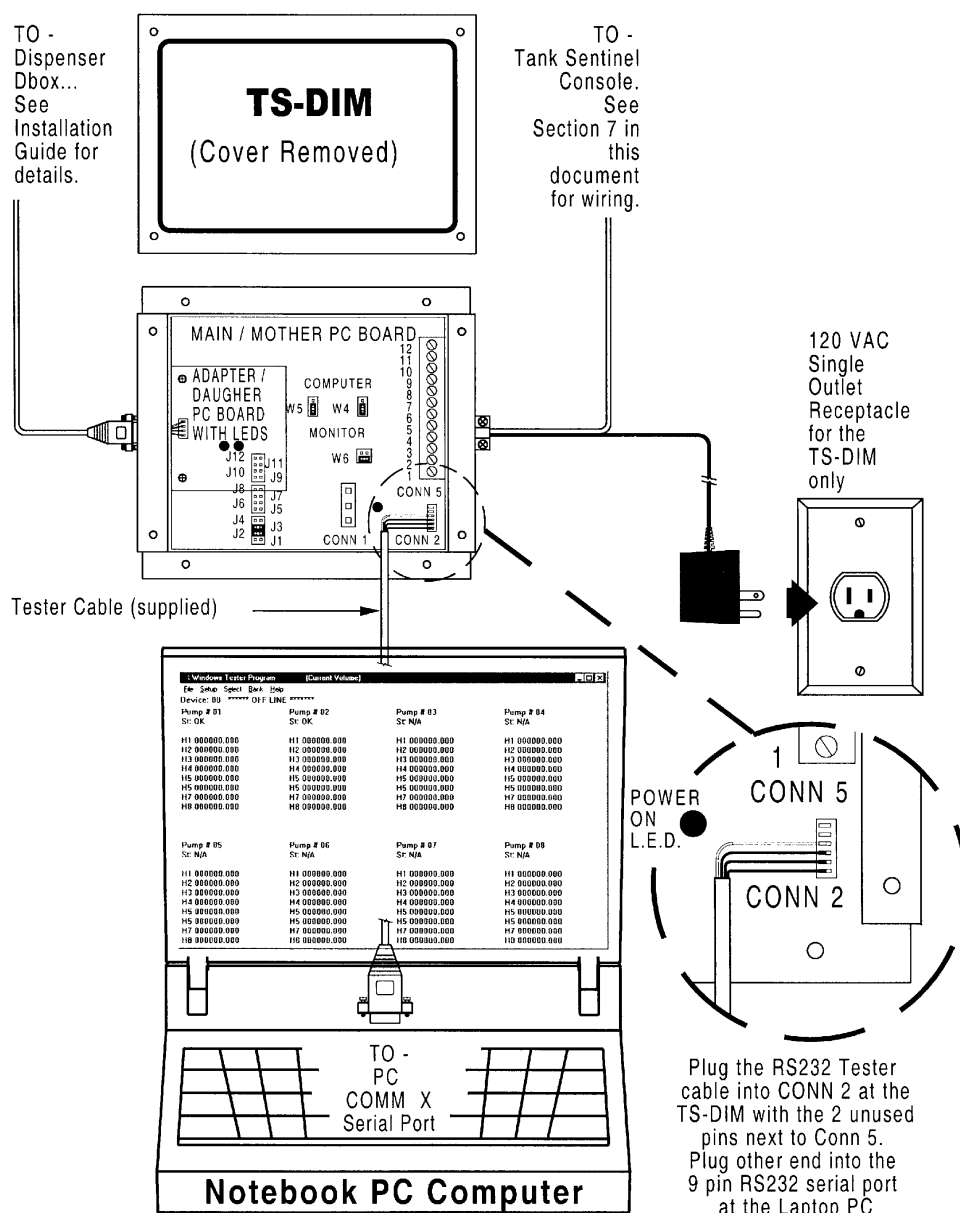

Figure 5.3. TS-DIM to Dbox and Receptacle Wiring Power
- 5.) Connect the RS-232 Tester Cable between Conn 2 of the TS-DIM and the 9 pin Serial Port on the Laptop computer. See Figure 5.3 and note the orientation of the wires on Conn2 in the TS-DIM.